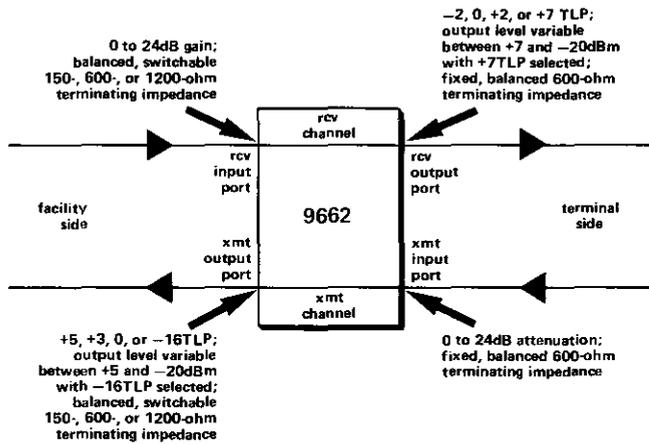

figure 4. Facility-side and terminal-side interfaces
2.05 If transmit output and receive input levels other than those available via the 9662's TLP-selection switches are required, these levels can be provided through the use of printed-circuit-board potentiometers associated with the TLP-selection switches. With the receive TLP switch set for a +7 TLP, the receive output level is variable between +7 and -20dBm with respect to a +7 TLP. With the transmit TLP switch set for a +5 TLP, the transmit output level is variable between +5 and -20dBm with respect to a -16 TLP. Figure 4 summarizes both level-control and terminating-impedance selections at all four of the module's ports. See paragraphs 3.09 through 3.11 for details on setting levels.